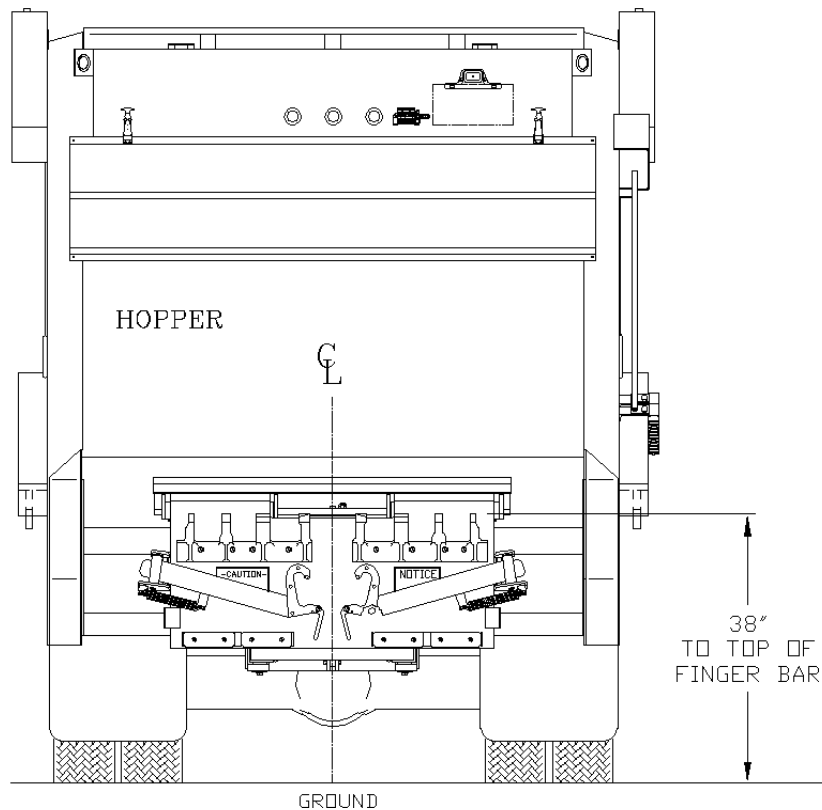

figure I-1
3. Position the lifter on the sill of the truck per figure I-1 and mounting height drawing (*Appendix A*) and tack weld the mounting plates in place (*later in the installation procedure the final weld will be applied*).